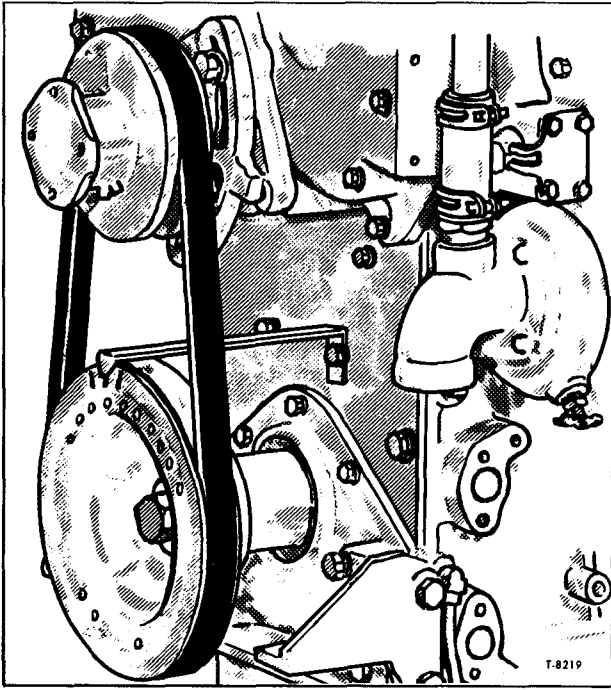

Figure 8—Pointer Installation for Marking Top-Dead-Center (Typical)
11. Scribe a line on the damper (or crankshaft pulley) (fig. 8) in line with the end of the pointer.
14. Scribe a second line on the vibration damper (or crankshaft pulley) in the same manner as in Step 11 (fig. 8).